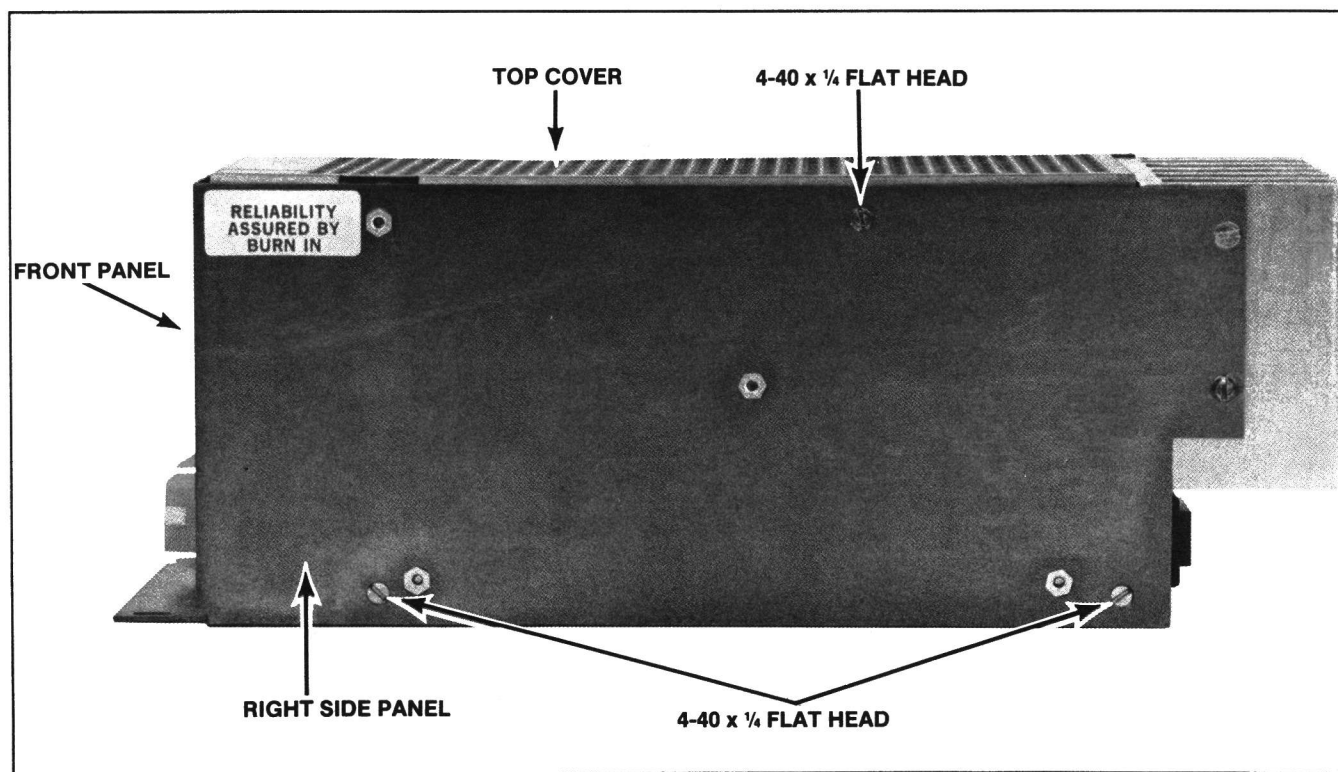

Figure 3 - Right Side View
3. Remove two 4-40 x 1/4 flat head screws from bottom edge of right side panel. Remove 4-40 x 1/4 flat head screw from top center of right side. Lift off top cover. (Figure 3).